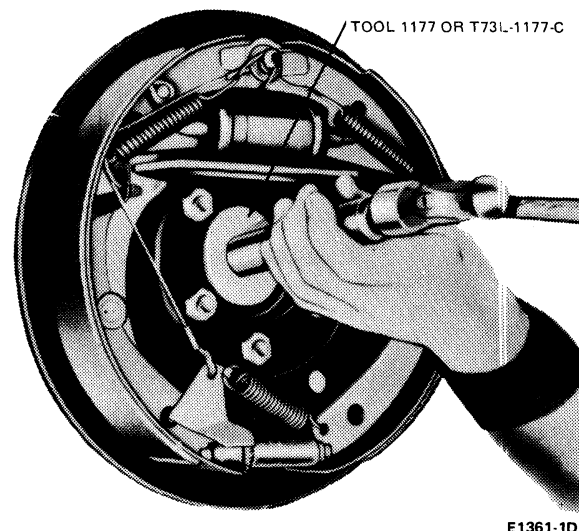

FIG. 9 Installing Oil Seal—Dana Model 44 Semi-Float Axle
1. Drive the oil seal in the axle tube with special tool T73L-1177-C, Axle Tube Seal Replacer (Fig. 9).